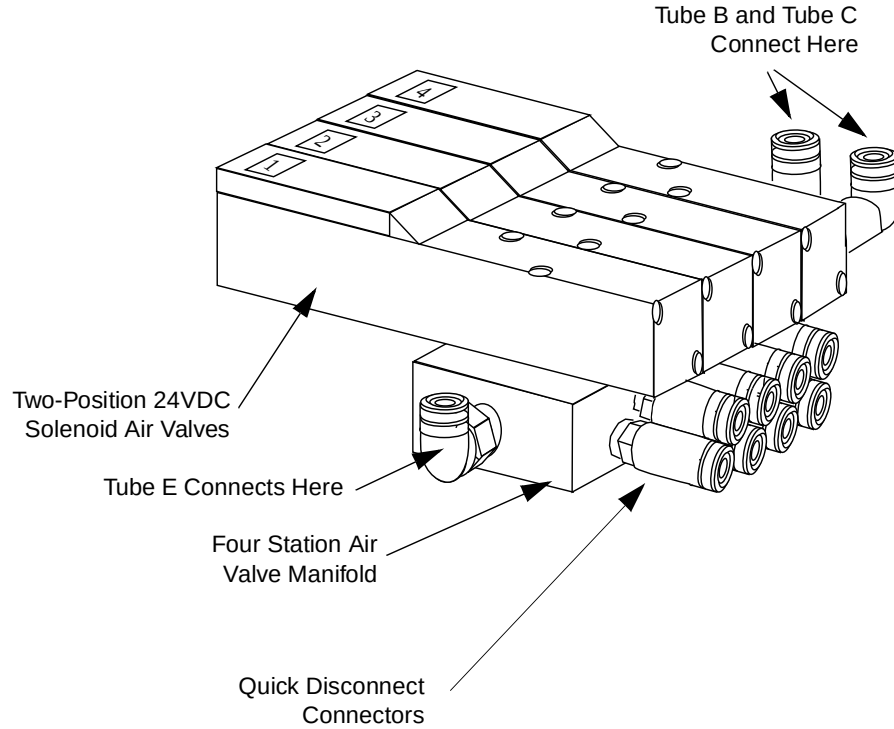

**Figure 7-3. Gripper Solenoids, Connector Locations**
The solenoid valve assembly, Adept P/N 30862-00100, consists of four independent valves (valve #1 through valve #4) on a common manifold (see Figure 7-3). The manifold supplies air at the user's line pressure (70 psi minimum to 110 psi maximum). Each valve has two output ports, A and B. The output ports are arranged so that when port A is pressurized, port B is not pressurized. Conversely, when port B is pressurized, port A is not. In the Adept-XL robot, the air lines from port A on each valve are plugged at the factory (at the solenoid assembly).
8. Connect tube B and tube C to the pair of fittings shown in Figure 7-3.
9. Connect tube E to the 1/4 inch inlet elbow of the valve assembly as shown in Figure 7-3.